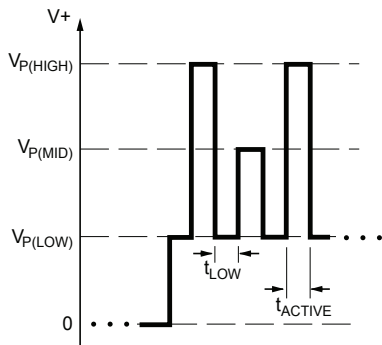

Figure 4. Parameter selection pulse train. This shows the sequence for selecting the register corresponding to key 1, indicated by a single  $V_{PM}$  pulse.
Each programmable parameter can be accessed through a specific register. To select a register, a sequence of voltage pulses consisting of a  $V_{PH}$  pulse, a series of  $V_{PM}$  pulses, and a  $V_{PH}$  pulse (with no  $V_{CC}$  supply interruptions) must be applied serially to the VOUT pin. The number of  $V_{PM}$  pulses is called the *key*, and uniquely identifies each register. The pulse train used for selection of the first register, key 1, is shown in figure 4.